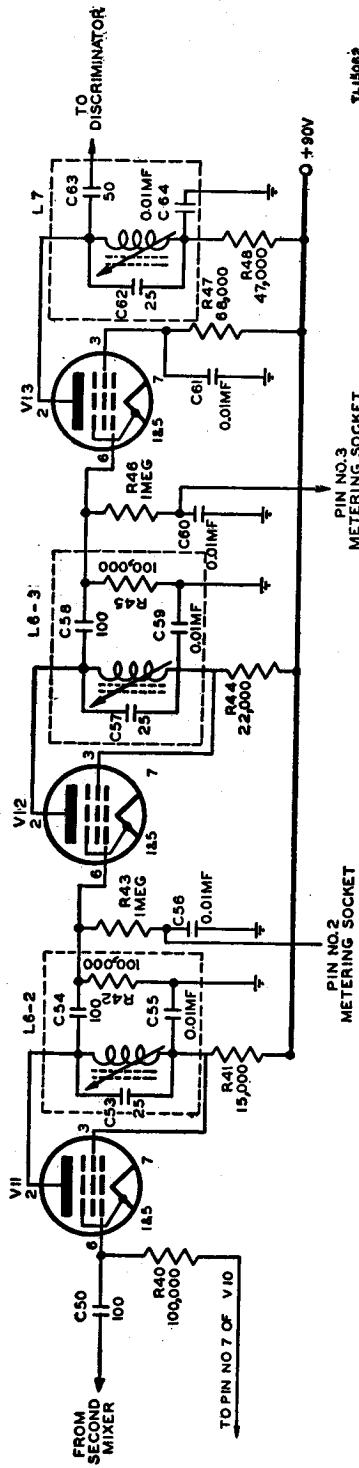

Figure 49. Radio Receiver and Transmitter BC-1000-A, receiver second i-f amplifier system
a. The second i-f amplifier system as shown in figure 49 consists of the third i-f amplifier Tube JAN-1T4, V11; first limiter Tube JAN-1L4, V12; and second limiter Tube JAN-1L4, V13. The output of the second mixer is increased in amplitude by the third i-f amplifier before application to the limiter stages. The limiter stages confine the i-f signal within fixed voltage limits regardless of the strength of the incoming signal. (This does not apply to a very *weak* signal which may not have sufficient amplitude to swing between these levels.) The signal applied to the frequency discriminator is, therefore, constant in amplitude. The audio output of the receiver is reasonably constant in volume and free of interference from weaker signals on the same frequency.